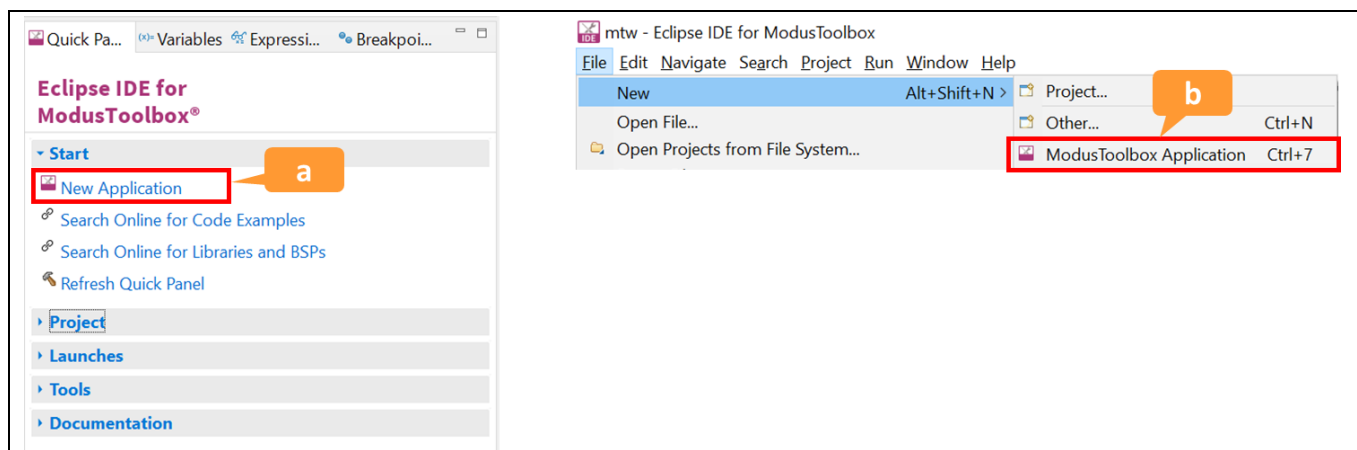

Figure 9 Create a new ModusToolbox™ software application
- b) Alternatively, you can choose **File > New > ModusToolbox™ Application**, as **Figure 9** shows.